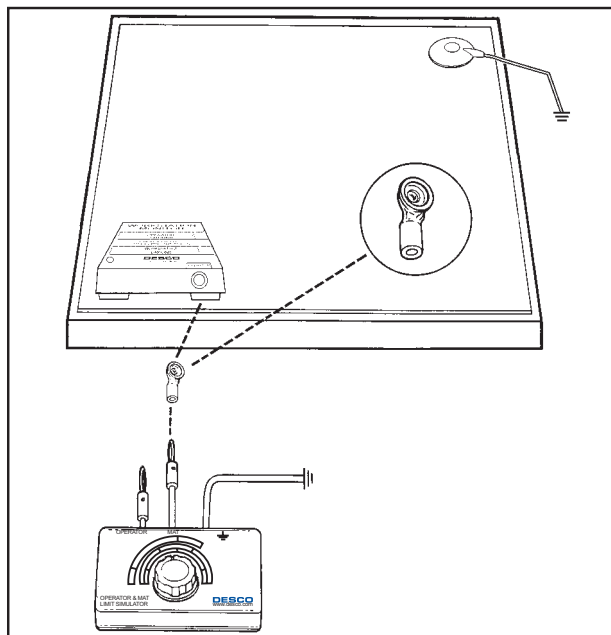

Figure 7. Testing 19212 work surface PASS AND FAIL.
Step 2: Connect the 09872 adapter to the banana plug marked "Mat" on the calibration unit. Disconnect the 19212 from the mat and re-install to calibration unit's adapter. See figure 7.